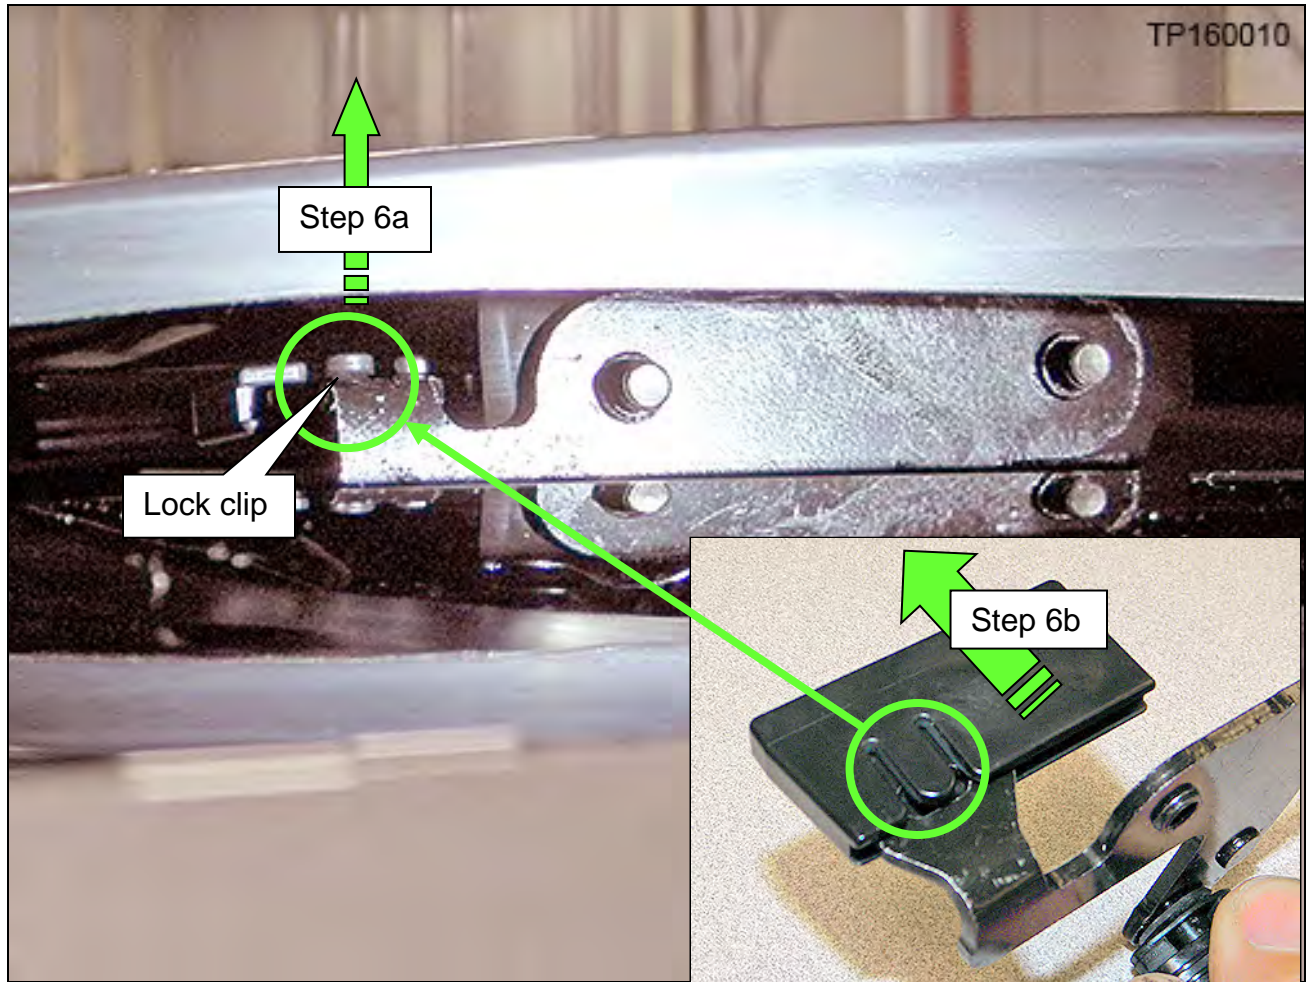

Figure 49
6. Remove the right and/or left knocks (Figure 49).